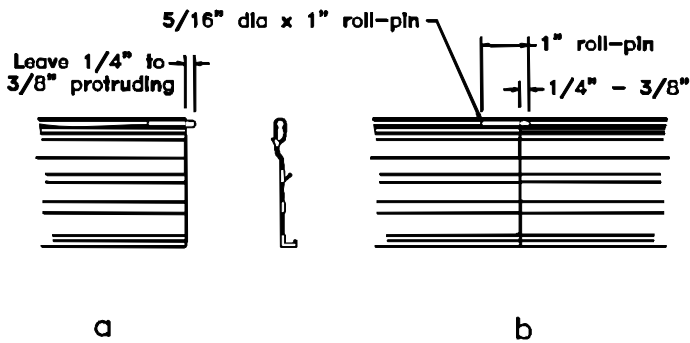

Fig 17
- Step 5:** Mount retainer to wall with the appropriate hardware according to wall condition. See *fig. 17* for splicing information. Insure spacing between retainer will accommodate outside corner assemblies where required, refer to *fig. 3*